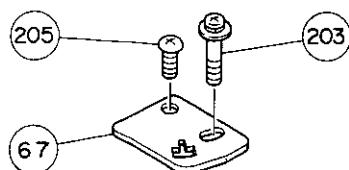

Figure 9
**(D) REMOVE THE TONEARM ASSY (63) AS FOLLOWS:**
- Unsolder the five lead-wires on Phono PWB Assy (67) coming from tonearm.
- Remove the Phono PWB Assy which is mounted to the Plate Assy (47) by two Screws, (203) and (205) (Fig. 9).